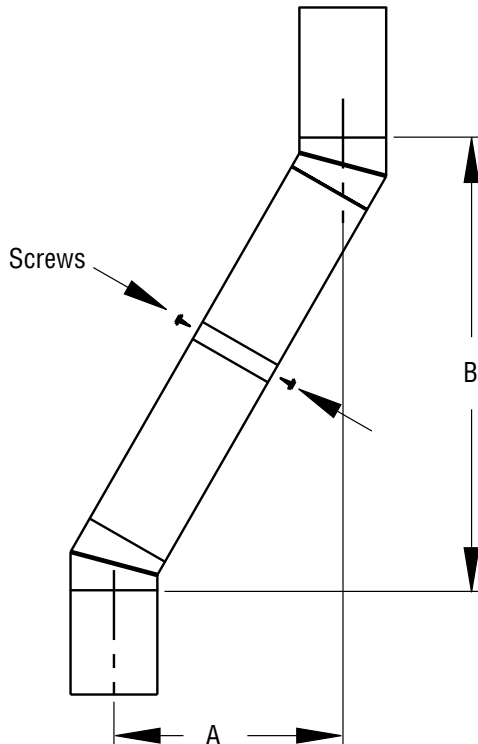

Figure 10 - Elbow Offset
Continue to assemble chimney sections as outlined above, making sure that both the inner and outer pipe sections are locked together. When installing double wall snap-lock chimney together, it is important to assure the joint between the chimney sections is locked. Check by pulling chimney upward after locking. The chimney will not come apart if properly locked. It is not necessary to add screws to keep the chimney together (*exception, see Figure 10, Page 10*).
1. To achieve desired offset, you may install combinations of 12", 18", 24", 36" and 48" length of double wall pipe (*see offset chart and Figure 10*).
4. All pipe connections between the offset and return must be secured with two screws on the outer pipe only (*see Figure 10*). Do not penetrate the inner stainless.